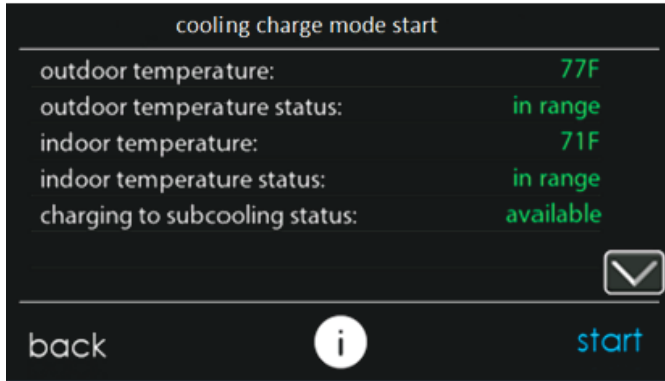

Fig. 17 – Cooling Charge Mode Start Screen - Subcooling Available ^{A240373}
- The next screen, “cooling charge mode start” is shown in Fig. 17 or Fig. 18 depending on whether subcooling charging is available. The reason for unavailability of subcooling can be viewed by pressing the down arrow to go to the second page. Before selecting “Start”, verify that the service valves are open. Pressing start will turn on the system at a fixed set of operating parameters in COOLING mode.